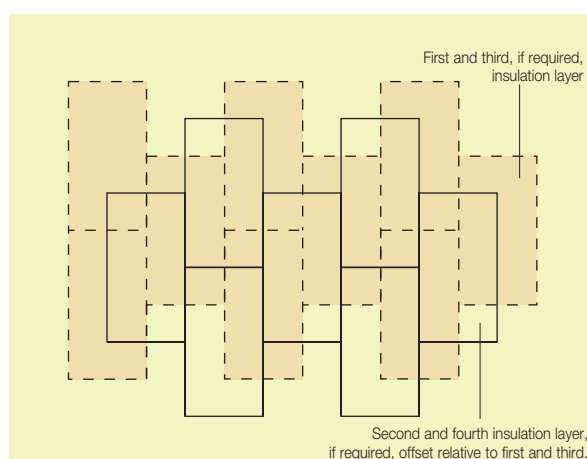

Figure 3 Offsetting of Multiple Insulation Layers
- If two or more layers of insulation are required, they should be horizontally offset relative to each other so that, as far as possible, the board joints in any two adjacent layers do not coincide with each other (see Figure 3).